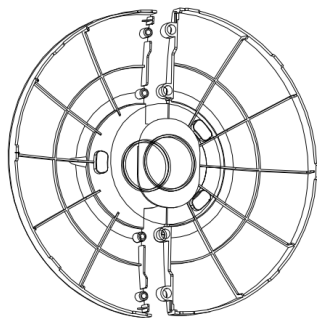

Fig. 1
1. Install the left and right base as a unit (fig. 1). Then coordinate the position of the bottom of the fan and the base.